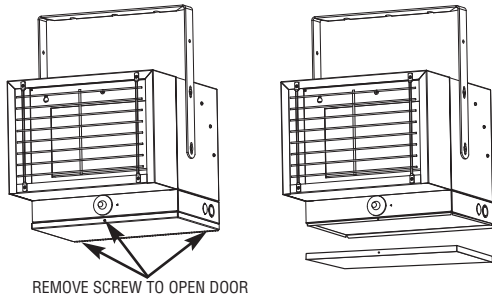

Figure 3
1. To connect the power to the heater, simply remove the three screws from the bottom of the unit. This allows the cover to be removed, providing access to the electrical wiring and connectors. (See Fig. 3)